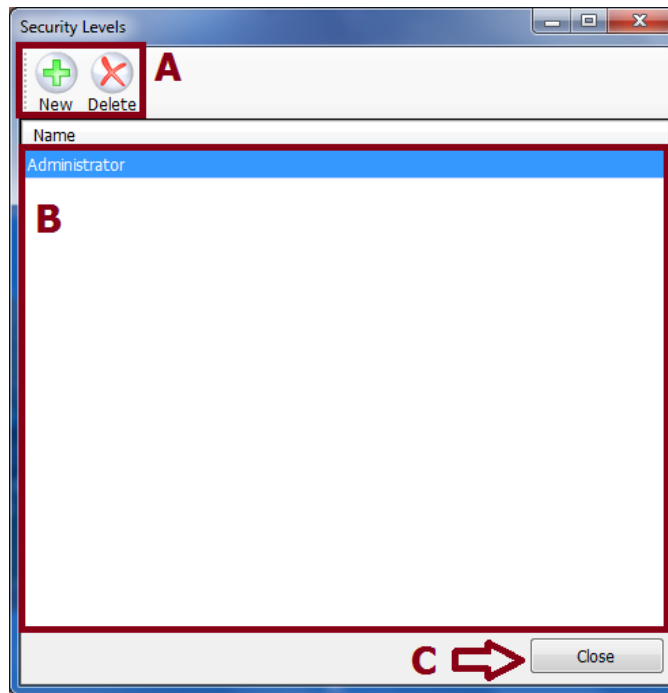

Fig 4-2 Security level box
2. Under the security levels list area Fig 4-2 \(B\), highlight the security level you wish to delete.